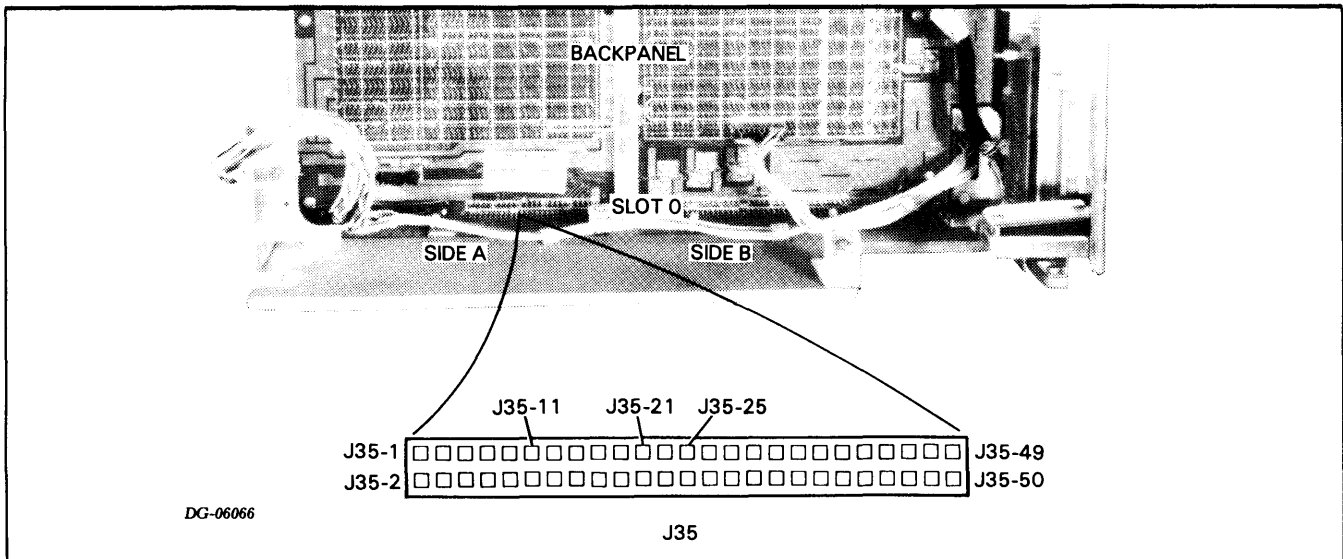

Figure 6.7 JACK J35
5. Short **MEMD** at J35-21 to **GND** at J35-1 (see Figure 6.7).
- Check the -11V voltage at J35-25 (see Figure 6.7)
- b. If the light is NOT on, check the ONLED-P voltage at J35-11 (see Figure 6.7).
2. Check the **+12 MEM** voltage at location J35-3 (see Figure 6.7).